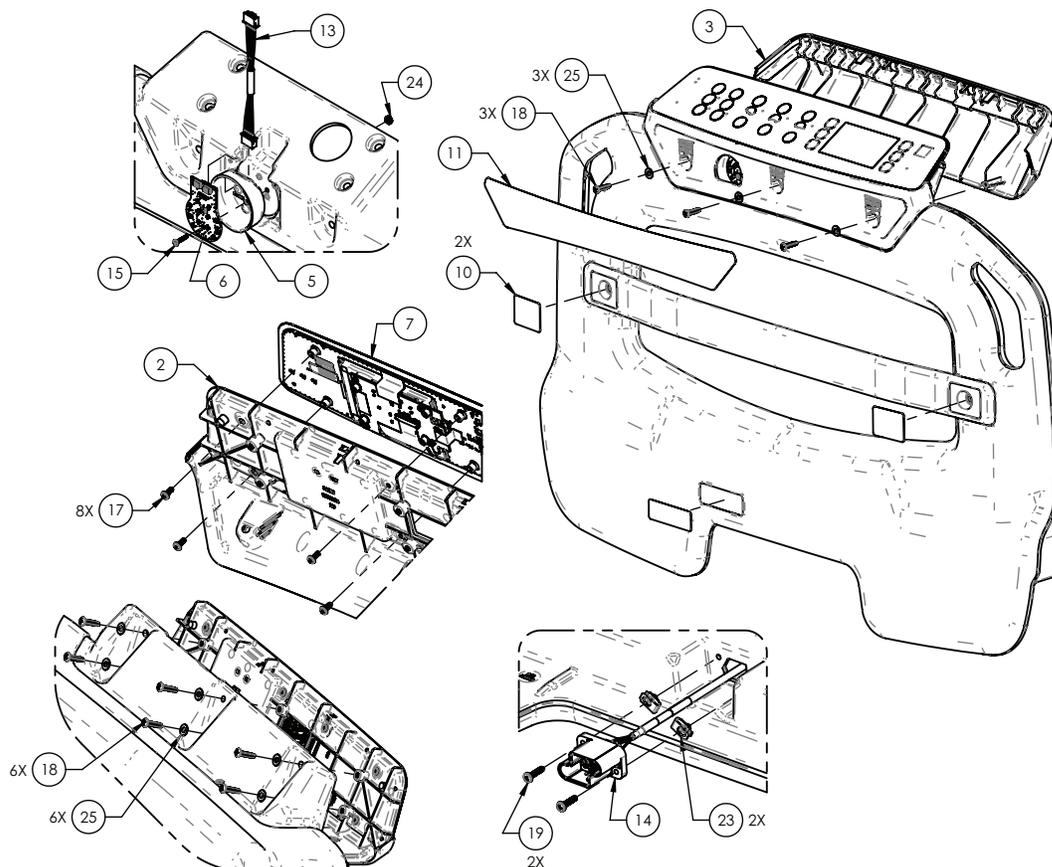

Figure 27 – Footboard main cable replacement
5. Using a pick, remove the front label (11) from the footboard (Figure 27).
6. Using a #2 Phillips screwdriver, remove the three screws (18) and washers (25) that secure the back panel (3) to the footboard (Figure 27). Remove and save the back panel.
7. Using a #2 Phillips screwdriver, remove and save the six screws (18) and six washers (25) that secure the keypad/display (7) to the footboard (Figure 27).
8. Disconnect the keypad/display cable and the iBed footboard light cable (13). Remove and save the keypad/display (7) (Figure 27).
10. Using a #2 Phillips screwdriver, remove and save the two screws (19) that secure the footboard main cable (14) to the bottom of the footboard (Figure 27).
11. Remove the footboard main cable (14) from the footboard and discard (Figure 27).